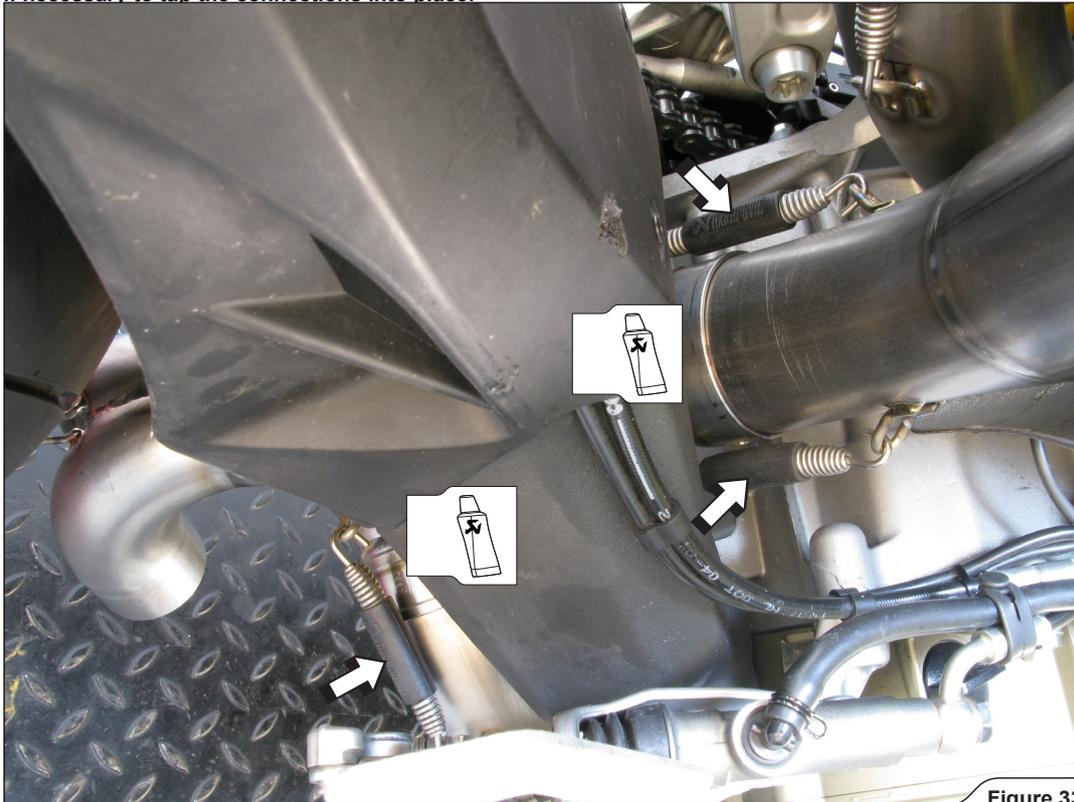

Figure 33
8. Slide the collector onto both link pipes and attach the springs (Figure 33).